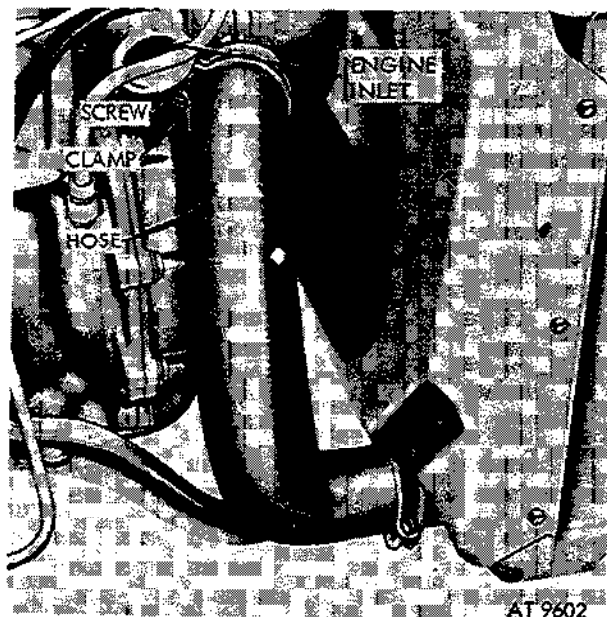

Figure 2-51. Radiator inlet hose.
(5) Loosen radiator hose clamp and pull radiator outlet hose off engine inlet (fig. 2-51).